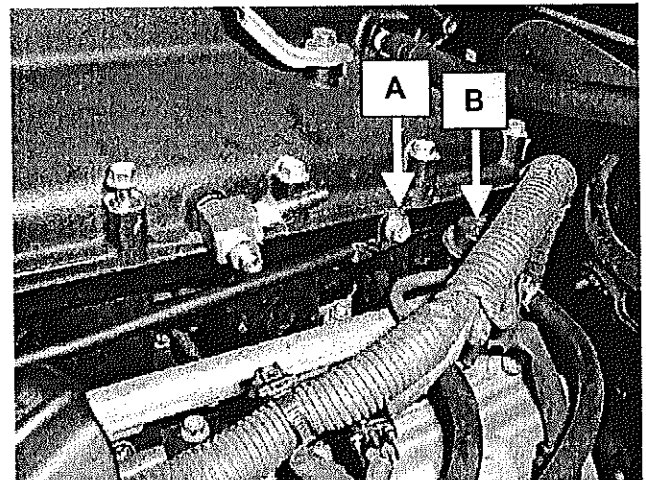

Figure 33
21. Attach the 6mm fuel pipe bolt to secure the auxiliary injector fuel line bracket to the mounting hole on the driver's-side of the TRD intake manifold (Arrow A, Figure 33). Torque the bolt to 7.5 N-m (66 in.-lbf).
- STOP** 22. Check the routing of the auxiliary injector fuel delivery line. It should be centered between the # 7 intake runner and the factory fuel damper (Arrow B, Figure 33). The line should not touch any components.